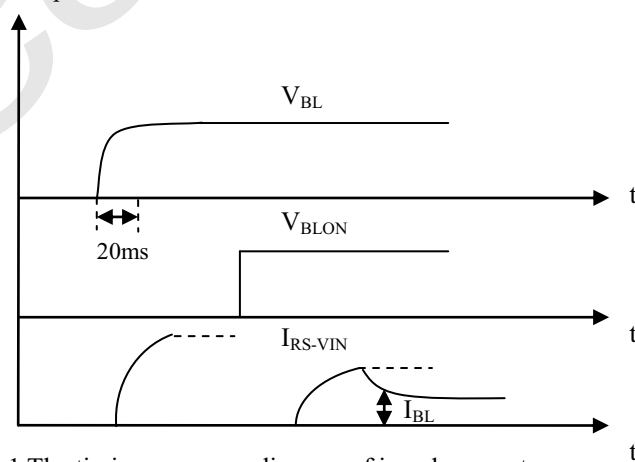

Fig. 3.1 The timing sequence diagram of inrush current measurement
(1) Dimming ratio = 100% (Max.) ( $T_A = 25 \pm 5\text{ }^{\circ}\text{C}$ , Turn on for 45minutes).
(2) The measurement condition:  $V_{BL}$  rising time is 20 ms. ( $V_{BL}$  from 10% ~ 90%), the sequence diagram is shown as Fig.3.1.
(3) Less than 5% dimming control is functional well and no backlight happens to shut down.
(4) Normal: 0 ~ 0.8V; Abnormal: Open collector.